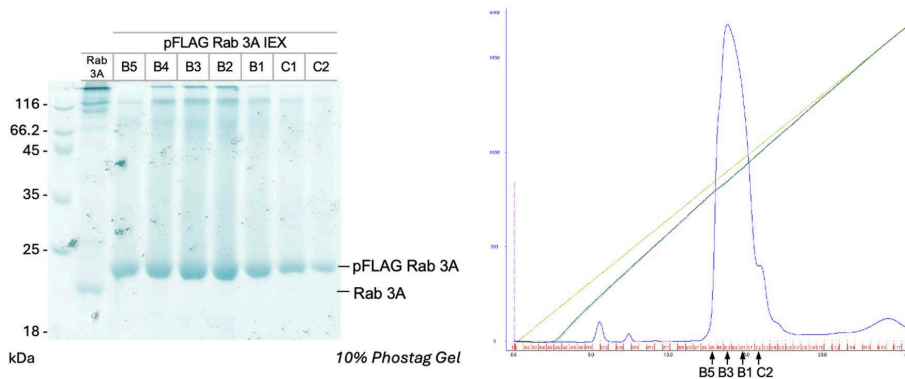

Figure 2: Ion Exchange of phospho-FLAG Rab3A and Coomassie stained 10% Phostag Gel with IEX fractions
- 42 Fractions containing phospho-FLAG Rab3A are identified by Phostag gel electrophoresis and pooled (Figure 2).
- 48 Stain the gel by Coomassie staining for 1 hour followed by destaining until bands are clearly visible (Figure 2).